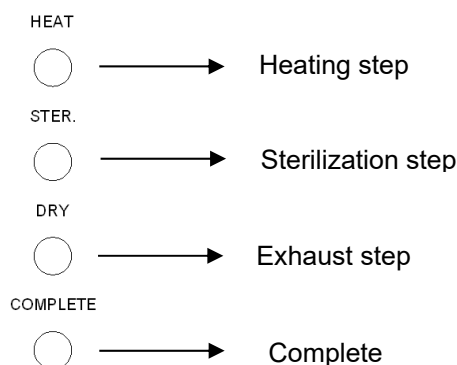

Figure 24
- F.4 Turn the “Liquid Sterilization” switch to ON(I) position for liquid sterilization, see “5.2.3.3 Control Panel – Liquid Function (optional)” for reference.
- F.5 Press the START Button. The current progress of the sterilization cycle is indicated on the Process Status Indicator. (Figure 24)